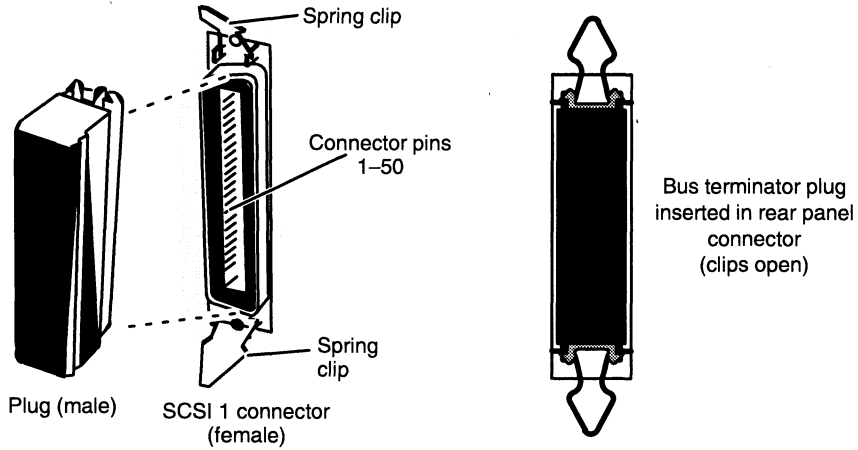

Figure 2-13 Installing the SCSI Bus Terminator Plug
- Align the connector pin numbers and the D-shaped connector bevels before gently inserting the plug in the SCSI connector, as shown in Figure 2-13.